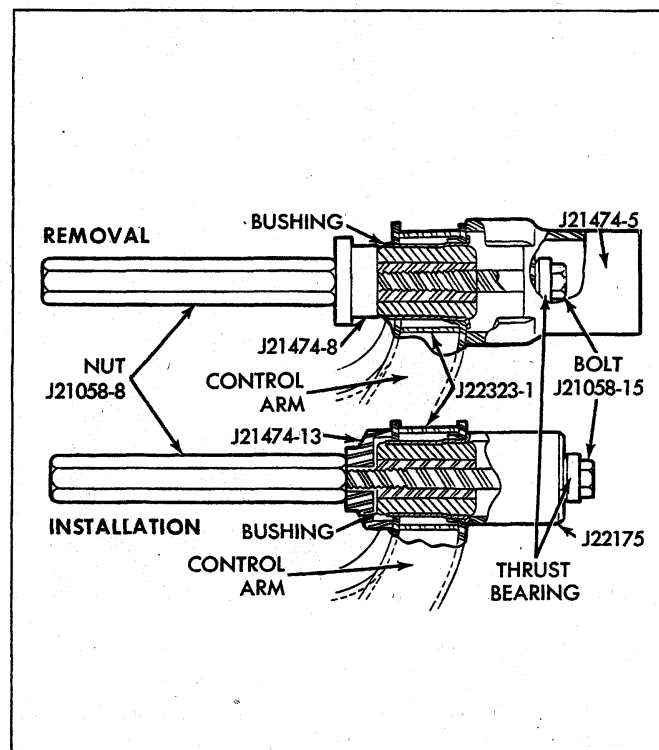

Fig. 32 - Lower Control Arm Bushing - Large - Chevelle & Camaro
2. To remove the large bushing, use Tools J-21058-8, J-21058-15, J-21474-5, J-21474-8, J-22323-1 and the thrust bearing installed as shown in the removal illustration in Fig. 32.
4. Install the new bushing with Tools J-21058-8, J-21058-15, J-21474-13, J-22175, J-22323-1 and the thrust bearing installed as shown in the installation illustration in Fig. 32.